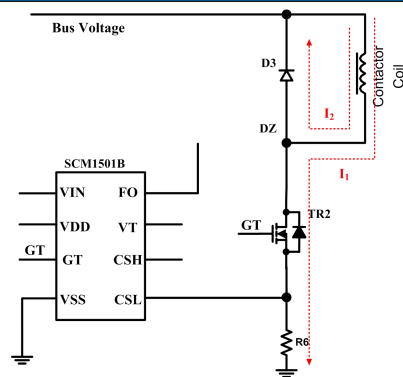

Fig. 7 Equivalent Circuits in the Pick-up and Holding Stages
(2) In Fig. 7, since the MOS transistor TR1 is turned on all time during normal operation, the main power circuit can be equivalent to the equivalent circuit of the Pick-up and Holding stages. When the MOS transistor TR2 is turned on, the contactor coil is excited, the coil current is increased, and the current path is, for example, I_1 , when TR2 is turned off, the contactor coil is demagnetized by the diode D3, and the coil current is reduced. The chip detects the current of the contactor coil through the CSH and CSL pins, and adjusts the duty cycle in real time to adjust the coil current.